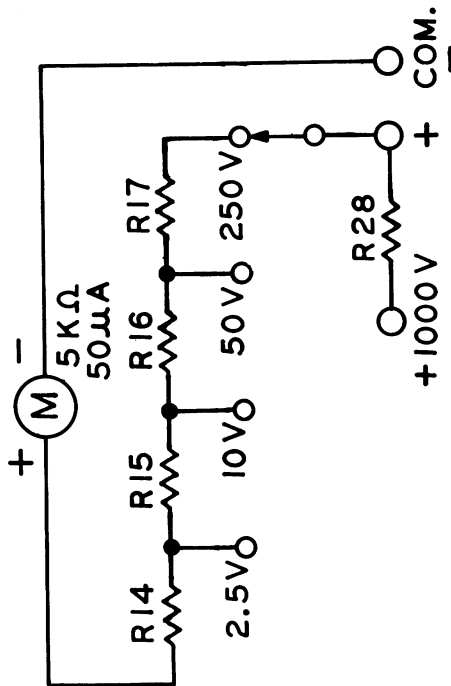

Figure 5-1. Simplified Circuit-DC Volts
5.2.1 The basic circuit configuration employed for DC voltage measurements is shown in simplified form in Figure 5-1. The metering circuit (M) in this diagram includes the calibrating network as described above. The precision voltage ranging resistors, R14, R15, R16, R17 and R28, provide the necessary voltage drop to yield full-scale deflection for each corresponding range as shown in Figure 5-1. Note that the 1000 V ranges utilize separate jacks.